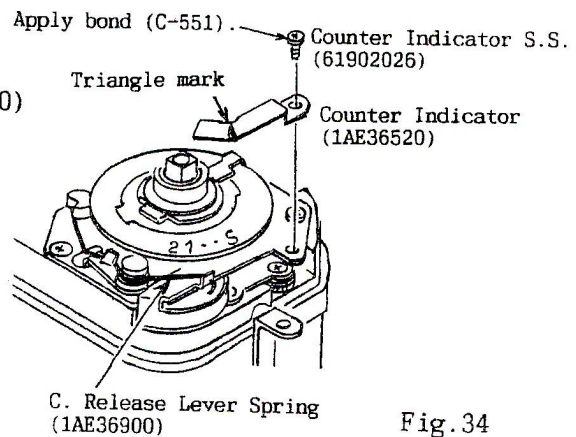

Fig. 34
- 5) Install the C. Release Lever Spring (1AE36900) and set it. (See Fig.34)